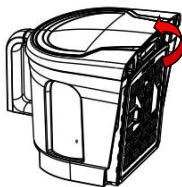

Fig.16
- 3) As in fig.16, rotate the HEPA cover to separate it from the chamber cover